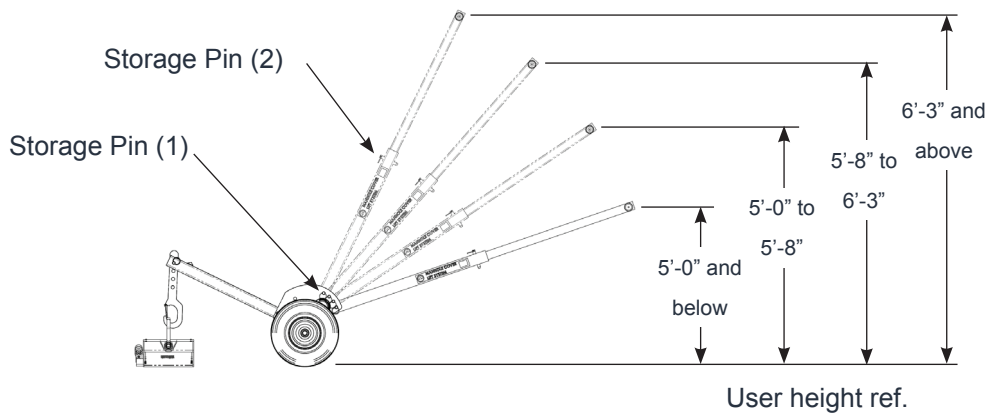
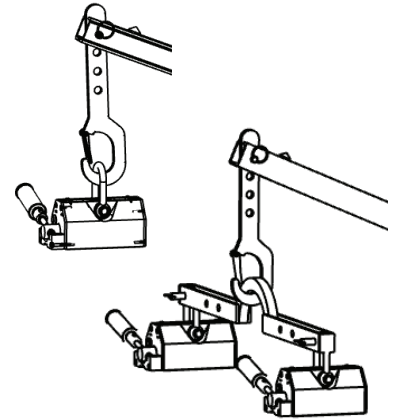

Figure 3
Figure 4
4. Reposition Storage Pin (1) to one of the four settings to optimize the handle position for the user's height. Refer to Figure 3. Attach the lifting magnet(s) to the dolly. Position the handles of the lift magnets away from the side where the dolly will be attached. Refer to Figure 4.